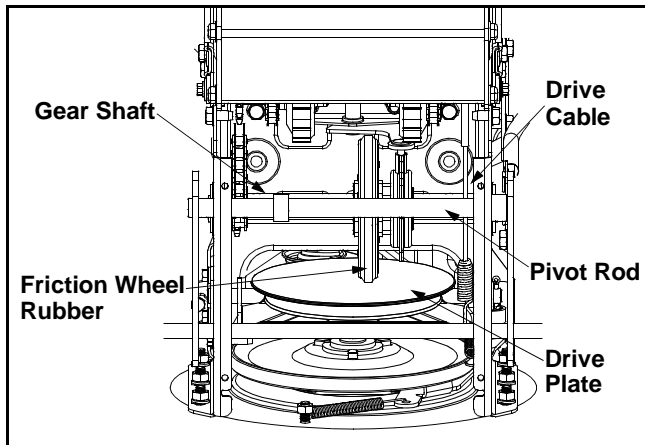

Figure 9
- With the traction control engaged, the friction wheel must contact the drive plate. See Figure 9.
Lubricate the gear shaft with 6-n-1 grease at least once a season or after every 25 hours of operation (available at automotive stores, or order part number 737-0170). Refer to Figure 9.
mechanism at least once a season. Use engine oil or a spray lubricant. **Avoid getting oil on the friction wheel rubber and aluminum drive plate.** Refer to Figure 9.